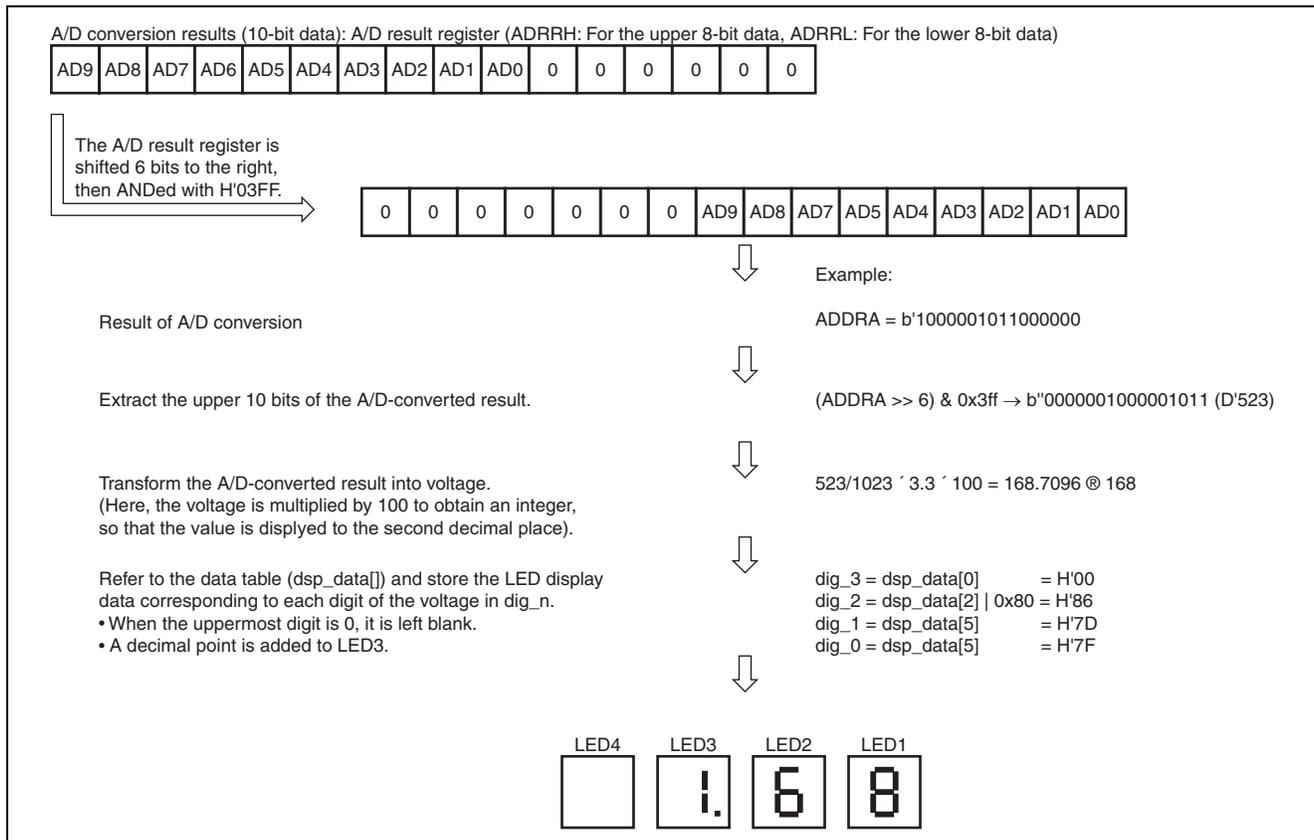

Figure 1.3 How A/D Conversion Results are Displayed on the LEDs
9. In this sample task, the results of A/D conversion are displayed in decimal fraction (unit: V) on the seven-segment LEDs. Figure 1.3 shows how this is done.